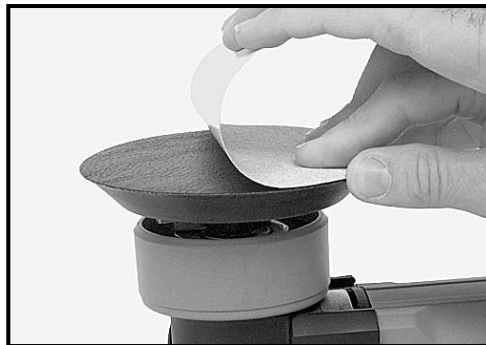

Fig. 4
2. Place machine on workbench with pad up (See Fig. 4).